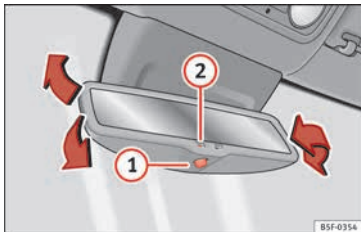

Fig. 19
- Switching on the automatic anti-dazzle function: press the ① » Fig. 19 button. The ② warning lamp lights up and, in bright light, the rear view mirror darkens.